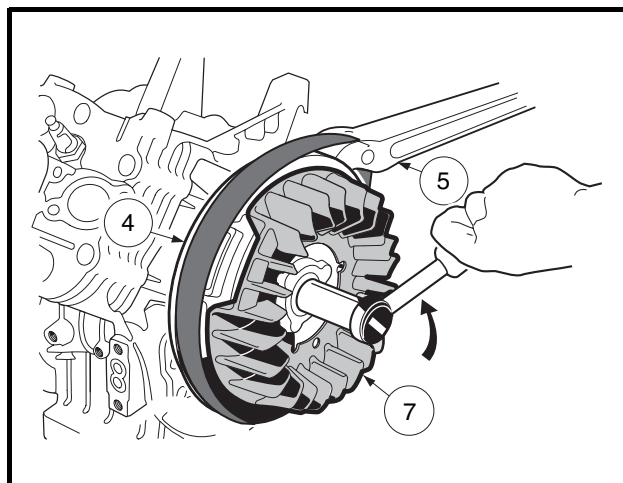

Figure 13-7 Flywheel Nut Removal
4. Hold the flywheel (4), **not the fan** (7), with a strap wrench (5) and, use a 25 mm socket to remove the flywheel nut (and flat washer) by turning it counterclockwise (**Figure 13-7, Page 13-8**). See following **CAUTION**.